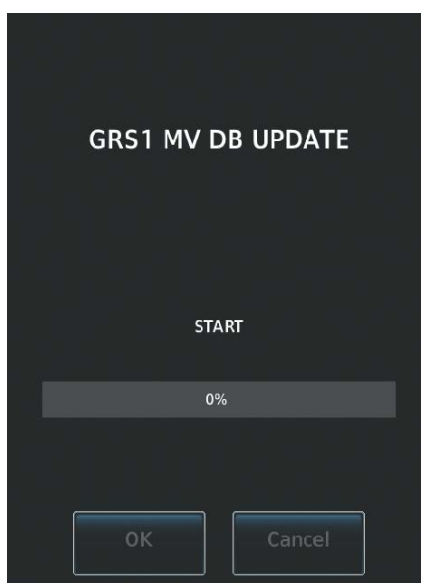

Figure B-17 Uploading Database to GRS1
- 1) With the MV DB prompt displayed, as shown in Figure B-16, touch the **OK** Button. A progress monitor is displayed as shown in Figure B-17.